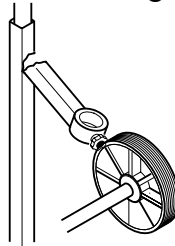

Fig.13
- 2 Check to make sure that the goods have not been damaged during transport and the pump has **NEVER** been used with elements damaged even partially (fig. 13).